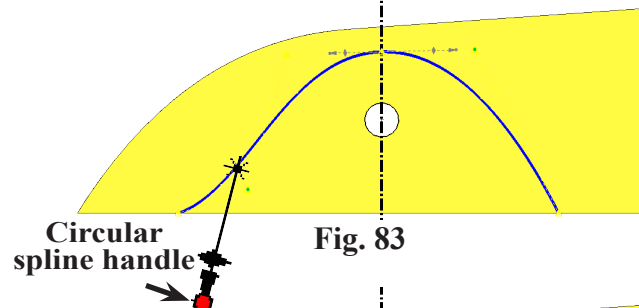

Fig. 83
Step 16. Click the left spline to select it, **Fig. 83**.
Step 17. Grab the circular spline handle (small gray dot) at right endpoint, **Fig. 83** and pull up to adjust spline.